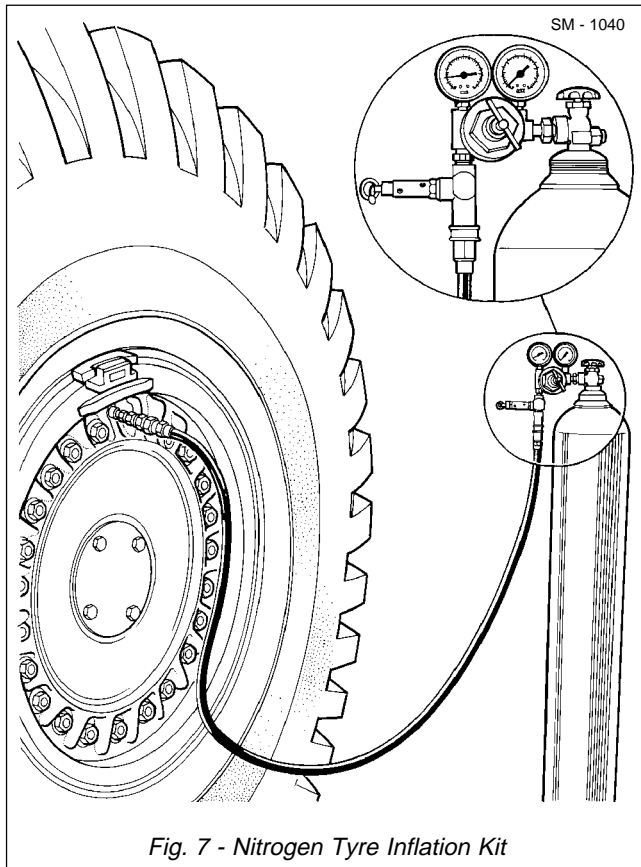

Fig. 7 - Nitrogen Tyre Inflation Kit
1. A nitrogen tyre inflation kit is available from your dealer and consists of the following. Refer to Fig. 7.
The nitrogen tyre inflation kit shown in Fig. 7 is available from your dealer. Refer to Section 300-0070, SERVICE TOOLS for part numbers of general service tools required.